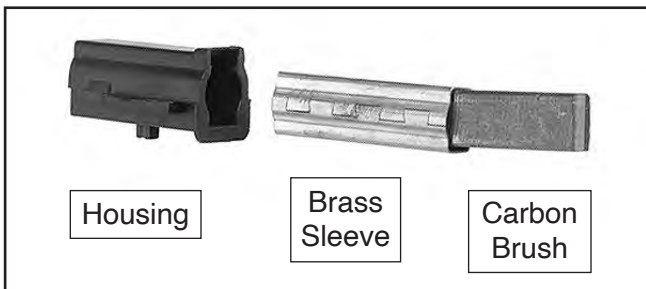

Figure 38. Brush assembly.
- Slide brush assembly apart, clean the housings and brass sleeves with mineral spirits, and allow the parts to dry (see **Figure 38**).
- Reassemble the housings with the brass sleeves and the new carbon brushes (see **Figure 38**) and set aside.